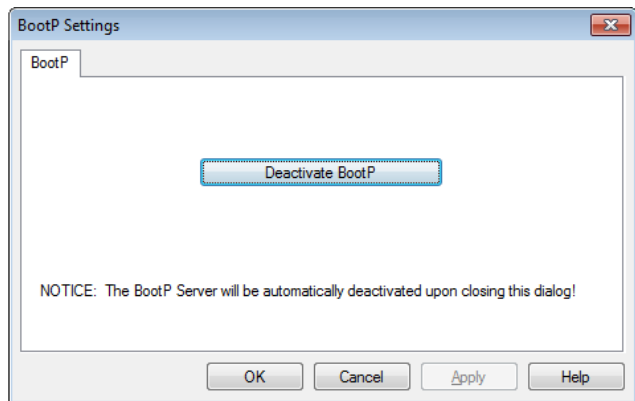

Figure 6-8 "Activate BootP" (A) and "Deactivate BootP" (B) buttons
• Click on the "Activate BootP" button (A in Figure 6-8).
- Click the "Deactivate BootP" button to deactivate the BootP server (B in Figure 6-8 on page 54).